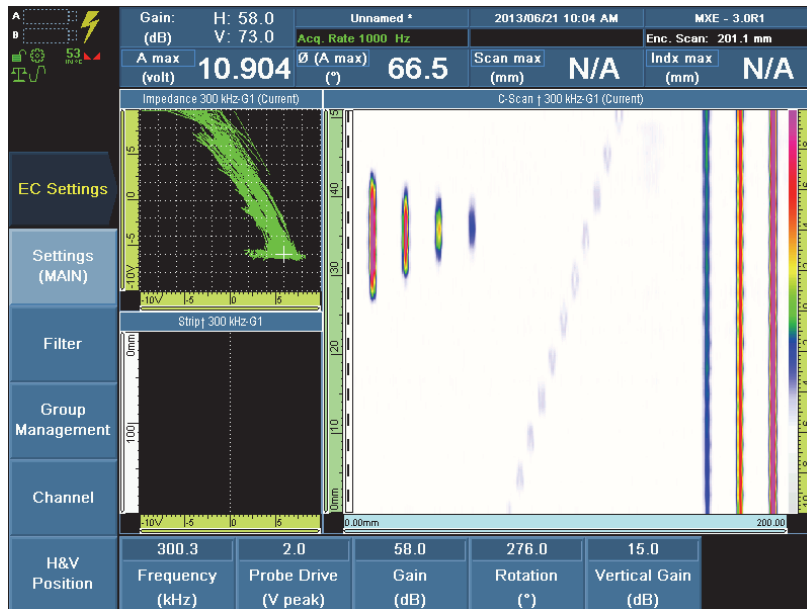

Figure 3-11 The display set to the CSI view
1. Adjust the display setup to present a C-scan, an impedance plane, and a strip chart. Select **Display > Setup > Acquisition = CSI**, and then press the Accept key to confirm (see Figure 3-11 on page 55).